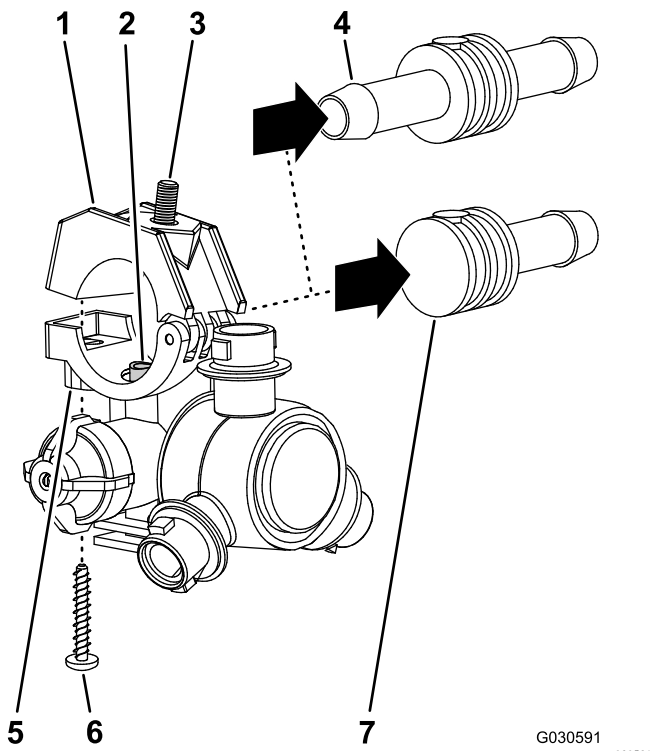

Figure 72
2. Remove the stainless steel screw (#12 x 1-1/4 inches) that secures the upper clamp half and double or single barbed-hose shank (3/4 inch) to the body of the sprayer nozzle, and separate the barbed-hose shank and hose from the nozzle (Figure 72).